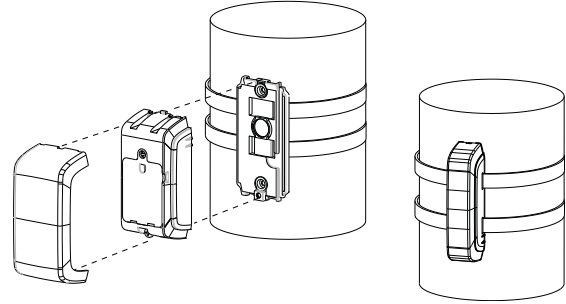

Figure 6 - Curved surface mounting
4. Feed both straps through the slots provided in the bracket, as in Fig. 6.